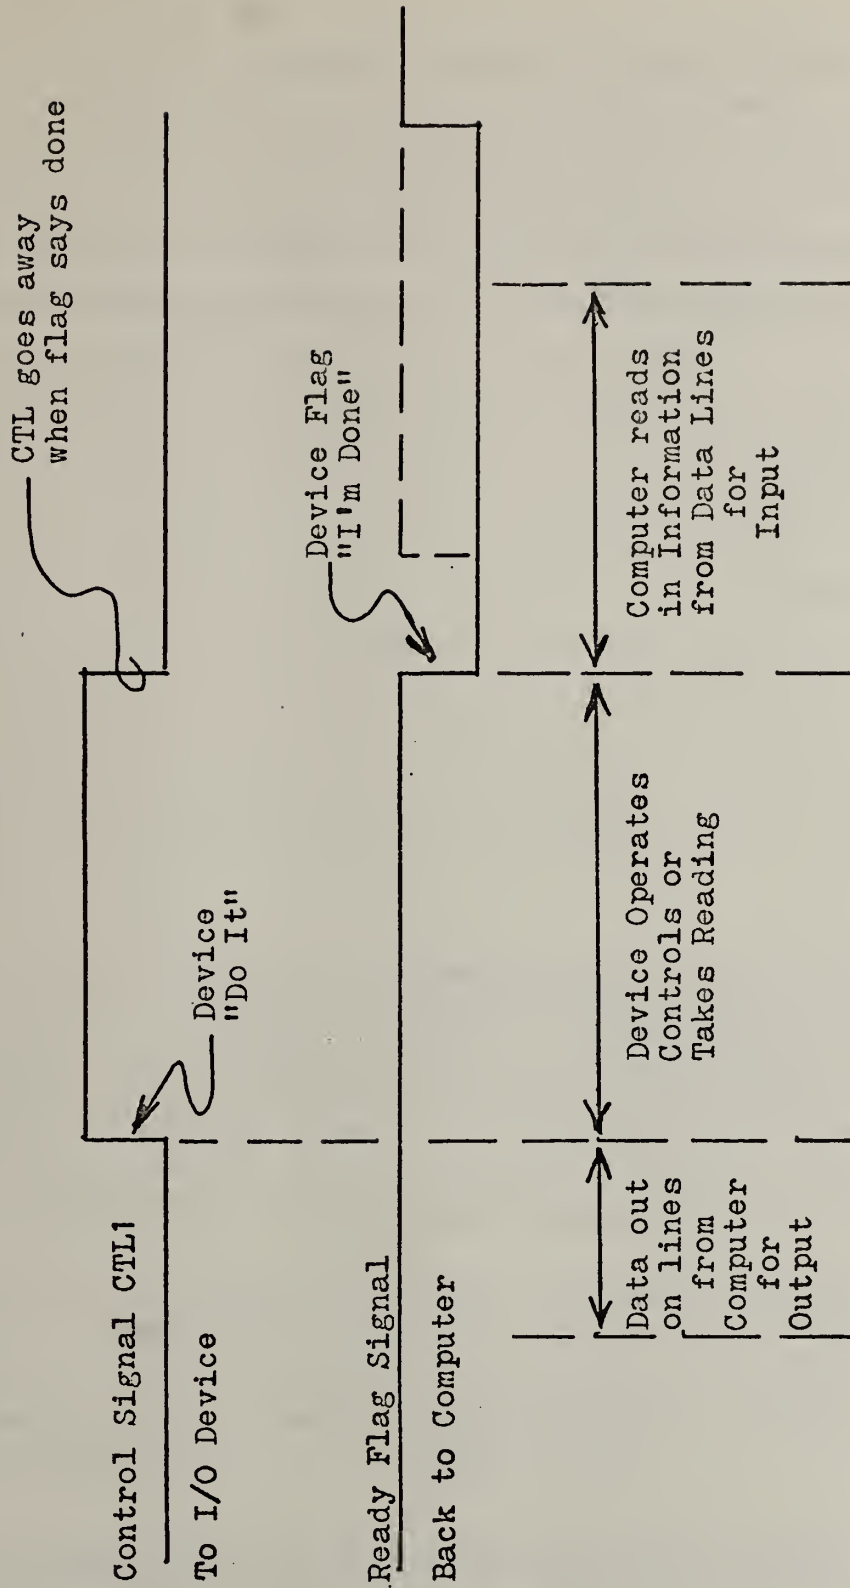

FIGURE 5 Flag Handshake Timing
- 3) Command control can be checked without program software by entering a format line, 9700 Format B, and pressing the end of line key. Then type the direct command: WRITE (4,9700) WBYTE XX; where XX is the desired control code to actuate a particular function. Note: The semicolon must be included. Then press the execute key. The ETMS should respond with the prescribed command. If the ETMS does respond properly, but the lazy T does not return to the calculator display, no ready flag is being returned. Figure 5 shows the hand-shaking timing interaction of the control signal and the return flag in the calculator input or output interface. Figure 3 shows the distribution of the control signals, data signals and latches and the return flags in the ETMS system.